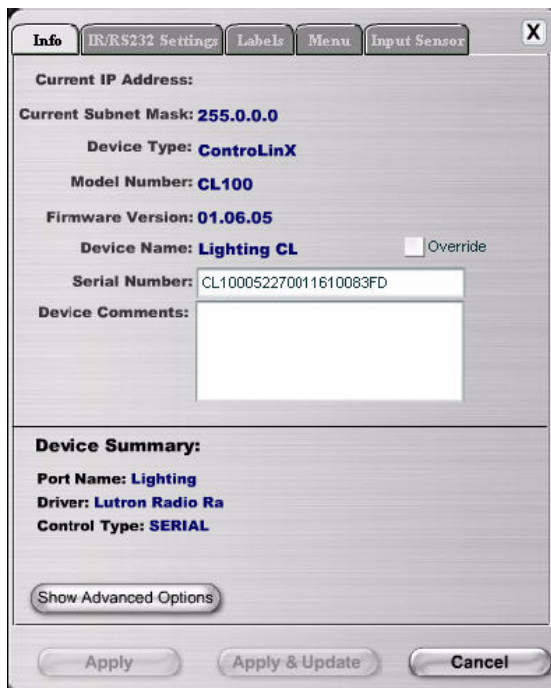

Figure 1 *ControlinX* Info tab
4. The **Info** tab for the *ControlinX* hosting a *RadioRA* system displays in the right window pane (see Figure 1).